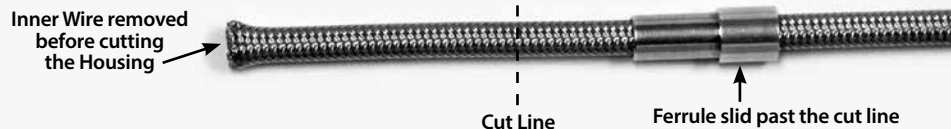

Fig. 6
Step 6: Route the cable housing up to the kickdown cable adjuster. **Make sure that the inner wire is removed from the cable housing.** If the cable housing is braided stainless steel, slide the ferrule down the housing towards the transmission, away from the end that is being cut. **Fig. 6** If the cable housing is braided stainless steel, **DO NOT** remove the ferrule! If the cable housing is black universal or Vintage Series, remove the ferrule.